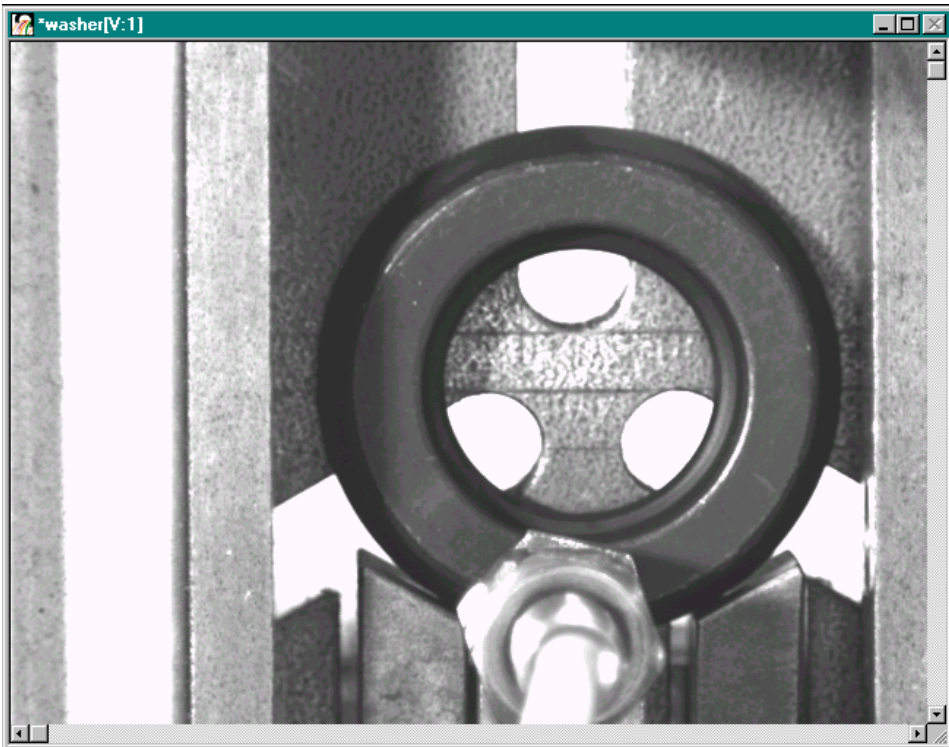

Figure 59: Edge Finder Tool Example Image
This example shows how to generate a freehand line ROI along the edges of an object in the image Washer, shown in Figure 59.
3. Click in the viewport on the image Washer with the left mouse button. Washer is now the active viewport and is denoted with an asterisk, as show in Figure 59. Click **Input Image** to load Washer as the input image.